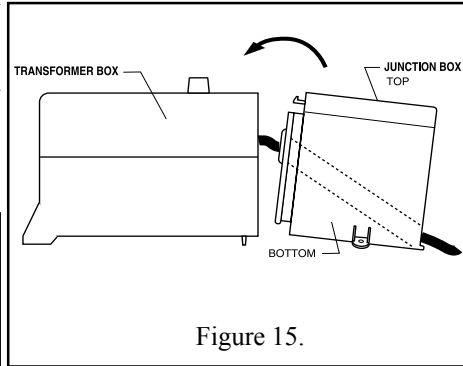

Figure 15.
- Place the junction box cover on the junction box bottom so that the junction box can more easily snap into the transformer box; see Figure 15. Snap the pieces together, then remove junction box cover.